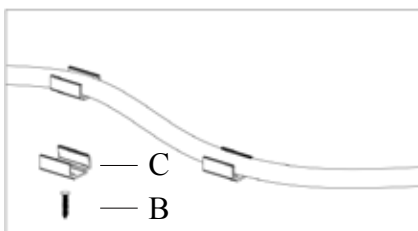

Figure 1
- Fix mounting clips with nails or screws onto support surfaces. (Figure 1、 2、 3)